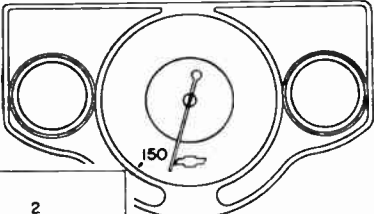

Fig. 3.
- Turn the Station Selector knob to its high frequency limit. The dial pointer then should barely overlap the lower corner of the Chevrolet insignia on the dial, as shown in Fig. 3. If it does not, remove the knobs and the two bearing inserts that are screwed in the escutcheon. The escutcheon can then be removed, the dial pointer mounting screw loosened and the dial pointer set correctly. In its correct setting, the dial pointer position coincides with the stop on the large gear.